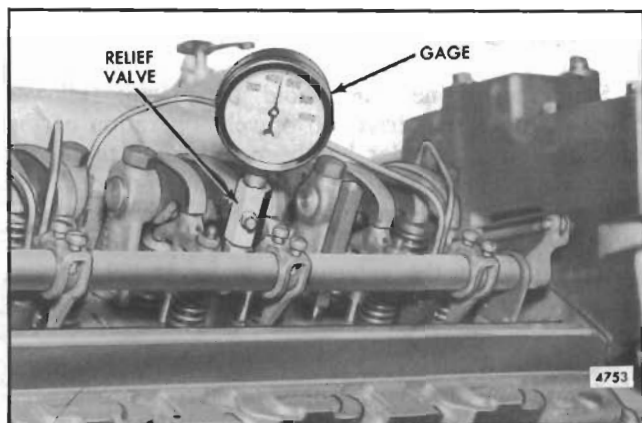

Fig. 1 - Checking Compression Pressure
3. Remove the injector and install an adaptor and pressure gage (Fig. 1) from Diagnosis Kit J 9531-01.